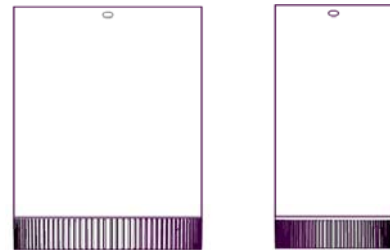

Figure 21: Roof Jack Indoor Extension Pipes
3. The indoor extensions, shown in Figure 21, are 7 inches in dia (Left Pipe) and 4 inches in dia (Right Pipe). The 4 inch dia pipe is placed inside the 7 inch dia pipe. The extensions are used when the roof jack is too short to extend to the furnace. The extensions are available in a 10 inch length and a 31 inch length. Refer to accessories parts list in the Service and Maintenance Manual.